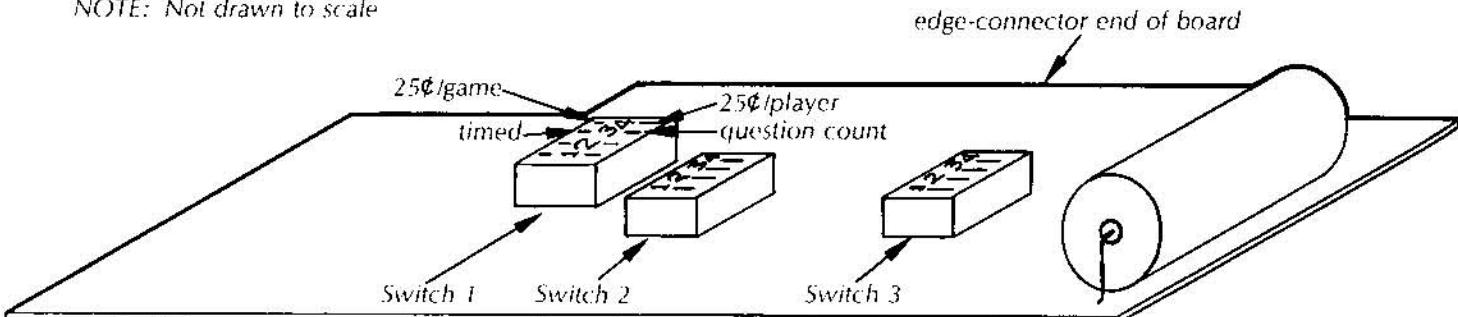

Figure 4-1 Approximate Locations of Adjustments on PCB II for Game Structuring
Examine the surface of PCB II and locate the three SPST (single-pole, single-throw) DIP switches. It will not be necessary to unplug and remove the board from the electronics tray. The designations "SW1," "SW2" and "SW3" are engraved onto the surface of the PCB alongside the switches. Figure 4-1 shows the approximate locations of these switches, and drawing number A005231 in Section VII of this manual shows their exact locations.
**4.3.1 25¢/PLAYER—25¢/GAME:** This option is selected on Switch 1, at the rearmost pair of buttons (position no. 4) on the switch assembly (closest to the edge connector end of the board). Figure 4-1 is labeled to show the structuring for each of the two stud positions. Note that the pairs of buttons labeled "1" and "2" are not used in the Quiz Show game.
**4.3.2 DURATION OF GAME SEQUENCE:** Positions on both Switch 1 and Switch 3 have to be selected. Position no. 3 on Switch 1 determines whether the duration is to be a fixed time or a fixed question count. Figure 4-1 is labeled to show the structuring for each of the pairs of buttons. The position selected on Switch 3 determines the number of seconds in the fixed time, or the number of questions in the fixed question count. Table 4-1 summarizes the structuring set up by the various combinations of positions on Switches 1 and 3.